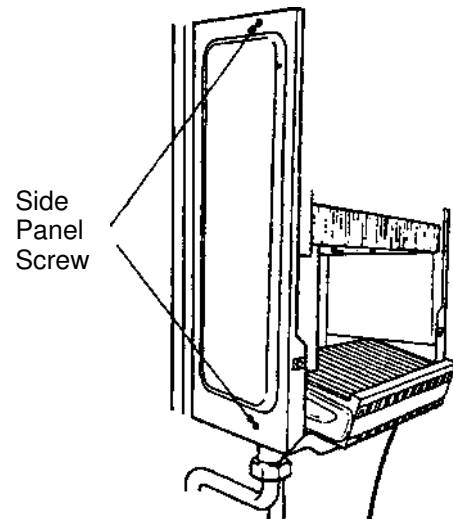
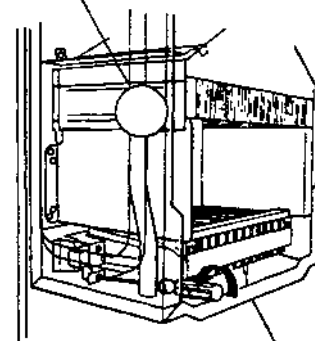

Fig. 29
Fig. 30
- 8.6.4 Remove four burner retaining screws (fig. 30). Ease burner forward and rest on chamber base (fig. 29).
Note: If difficulty is found in relocating the burner securing screws, easier access can be gained by removing the two side panels (fig. 29).
Refer to Fig. 30
Remove both side panels, 2 screws each (fig. 29)
8.8.8 Unscrew unions on either side of main heat exchanger fig. 30.
Fig. 29 a